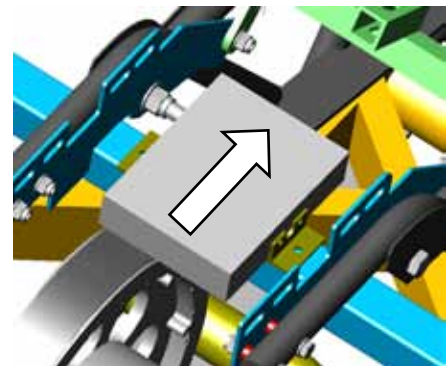

Figure 79
- Center assembly on cross bar and mark holes and drill ¼" holes. Figure 79